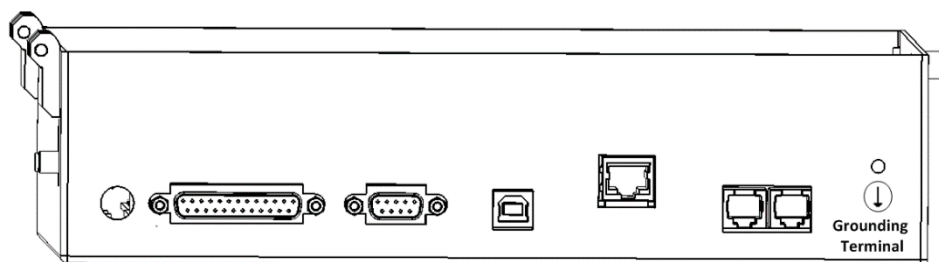

Figure 2: Grounding Terminal
1. Connect the ground cable to the dedicated ground terminal (Figure 2).